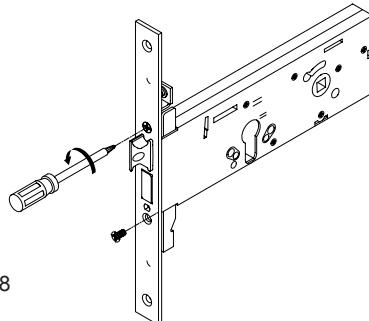
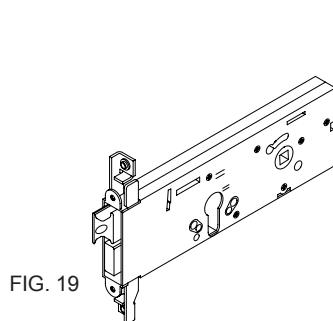
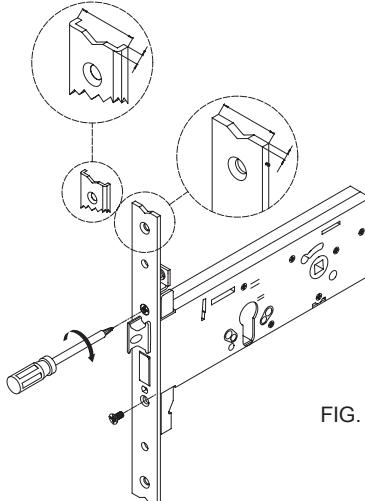
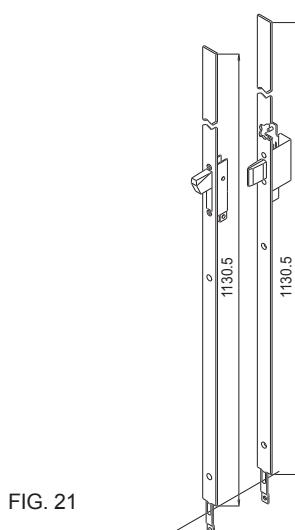

FIG. 18
FIG. 19
FIG. 20
FIG. 21
- G)** Fasi di installazione multipunto componibile art. 06444-50/60/65/75 (**Fig. 18, Fig. 19, Fig. 20, Fig. 21**).
- G)** Phases d'installation de la serrure multipoints composable art. 06444-50/60/65/75 (**Fig. 18, Fig. 19, Fig. 20, Fig. 21**).
- G)** Installation steps for modular multipoint locks item 06444-50/60/65/75 (**Fig. 18, Fig. 19, Fig. 20, Fig. 21**).
- G)** Fases de instalación multipunto componible, Art. 06444-50/60/65/75 (**Fig. 18, Fig. 19, Fig. 20, Fig. 21**).